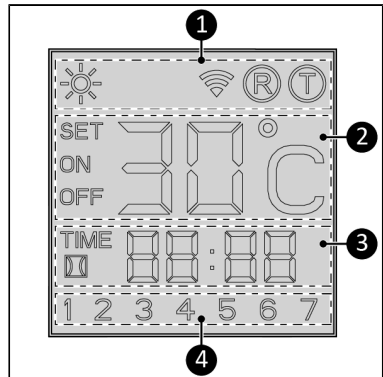

Figure 6.
Status indication (Figure 6, pos. 1):
Temperature indication (Figure 6, pos. 2):
Time indication (Figure 6, pos. 3):
Day indication (Figure 6, pos. 4):